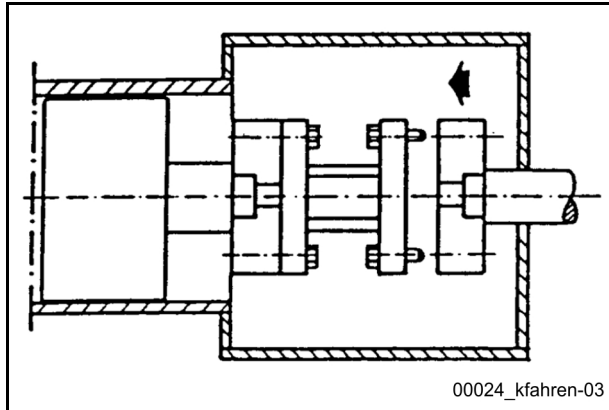

Fig. 193
- Insert the distance piece and screw it onto the pumping piston (**Fig. 193**).